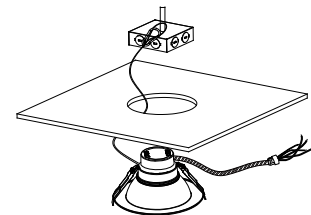

Fig. 4
4. Connect AC and dimming supply cables inside the hardwire junction box (not included) by using five (5) wire nuts. (Fig. 4) See **Electrical Connections** section below.